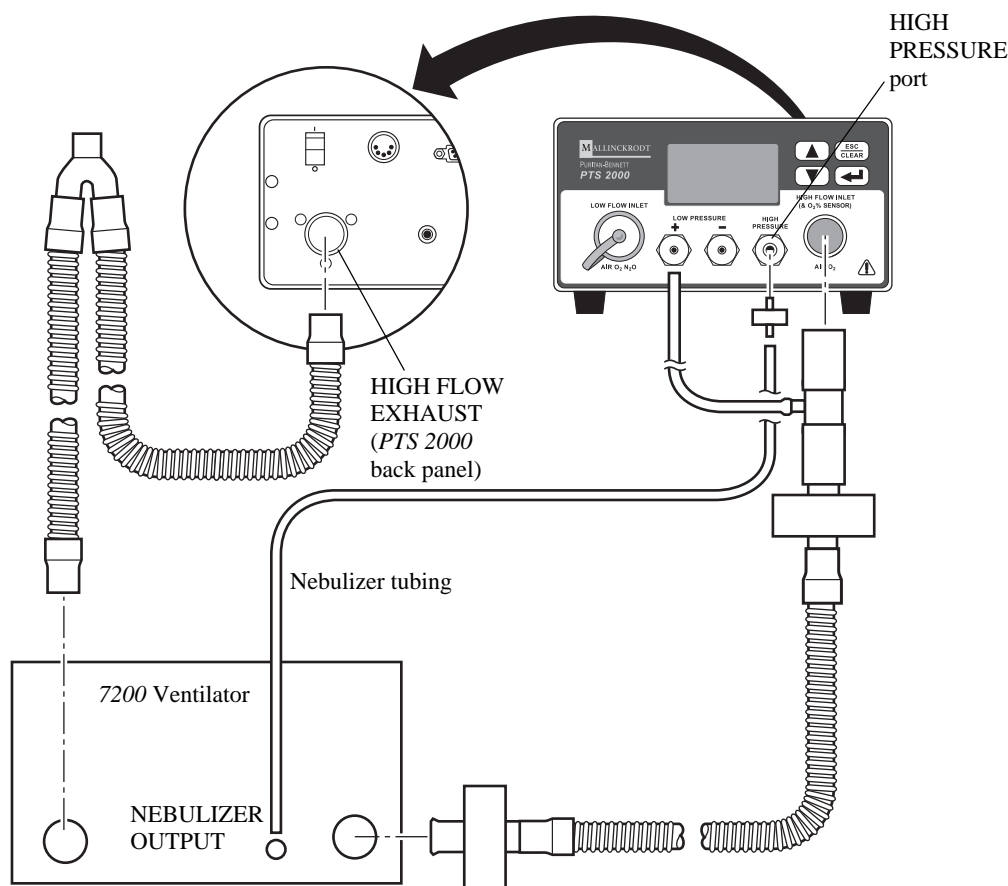

Figure 7-8. Attaching Nebulizer Tubing to PTS 2000 (Tests 9 and 10)
4. Disconnect nebulizer tube from nebulizer, and connect it to the positive High Pressure port on the test instrument (Figure 7-8).